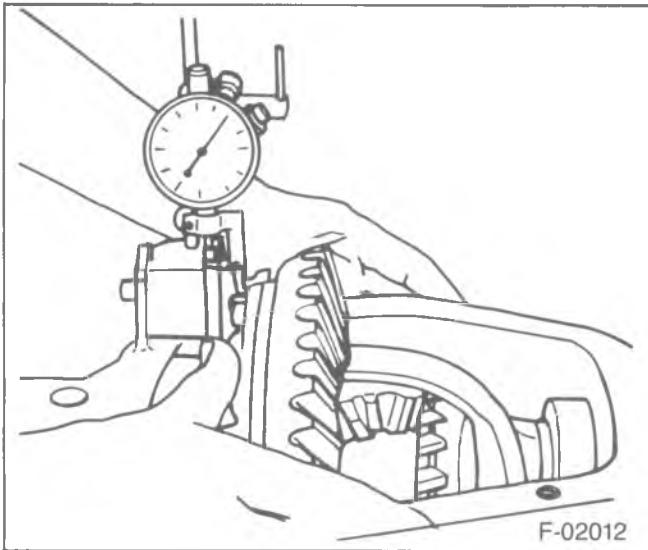

Figure 118—Measuring Differential Movement
1. Assemble the differential case (22) with master bearings installed to the axle housing. The pinion must be installed.
2. Mount a dial indicator having a minimum travel of 0.200-inch with a magnetic base on the ring gear bolt side of the housing (figure 118).